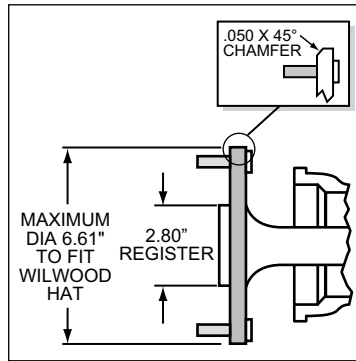

Figure 3. Axle Flange Maximum Dimension
- Axle center register diameter is 2.80", Figure 3. This kit uses Wilwood's removable center register adapters. Rotors can either be centered on the axle register, i.e. *register-centric* or centered on the wheel studs, i.e. *stud-centric*. Due to variations in wheel stud final diameters, *register-centric* centering can be a more accurate method of centering the rotor to the axle. Wilwood offers various diameter adapters for purchase in addition to the ones supplied in this kit, see Table 1.
•Maximum axle flange diameter must be no larger than 6.61" w/.050" x 45° chamfer, Figure 3.